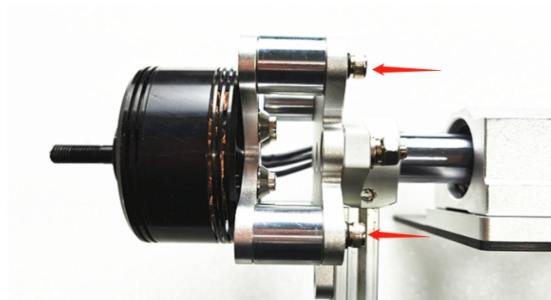

Fig. 2.1.5 Installation Completed
(3)Install the motor on test stand with screws. Motor cables should be on the side of the ESC Mounting Plate, as shown in Fig. 2.1.5: